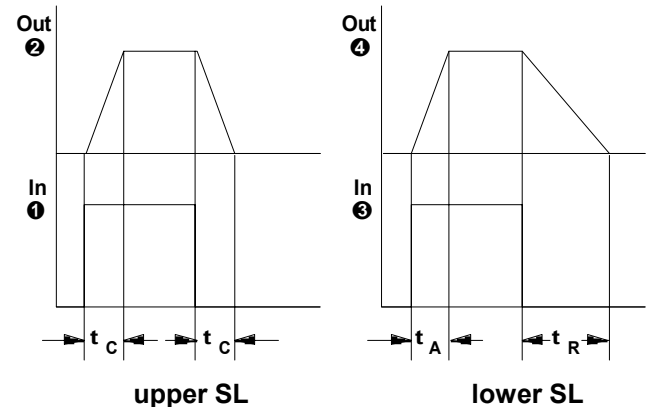

Fig. 1: A-170 response
This control sets the **rise / fall time t_c** of slew limiter 1 (see Fig. 1) in a range from 0 to 10 seconds.
④ ↑
With this control you set the lower slew limiter's **rise time t_A** (see Fig. 1), within the range set by switch ⑥.
⑤ ↓
The fall time t_R of the lower slew limiter (see Fig. 1) is set with this control, within the range set by the range switch ⑥.
⑥ Time Range